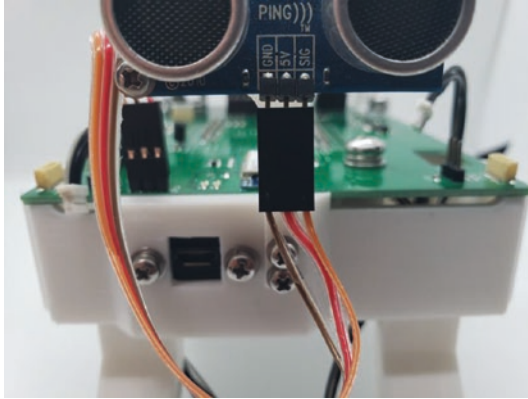

Figure 8-65. *Attach the Ultrasonic Sensor cable to the PCB*
20. Attach the Ultrasonic Sensor wiring harness to the PCB. See Figure 8-65.